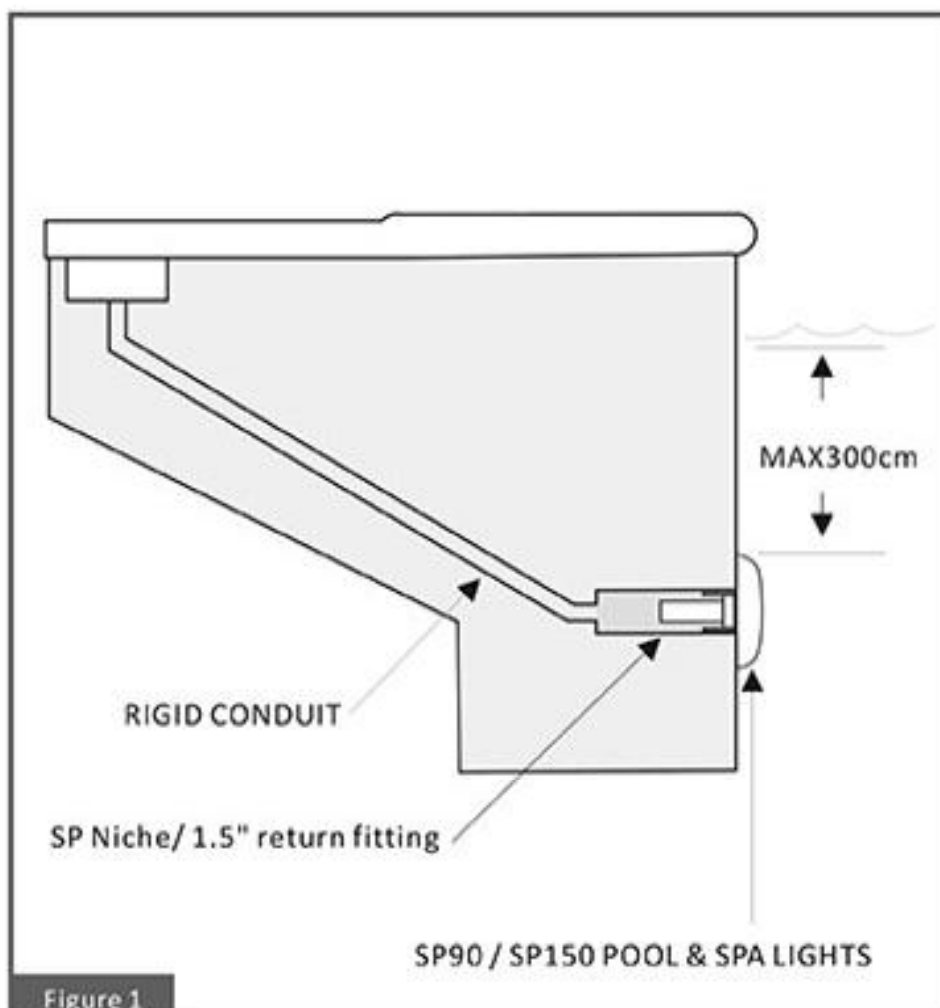

Figure 1
A: Preparatory steps which must be completed by the electrician or pool builder before light is installed see Figure 1:
1. Locate position on the vertical wall where lights are to be installed. The edge of the face plate must be 30~60 cm below normal water level, see Figure 1